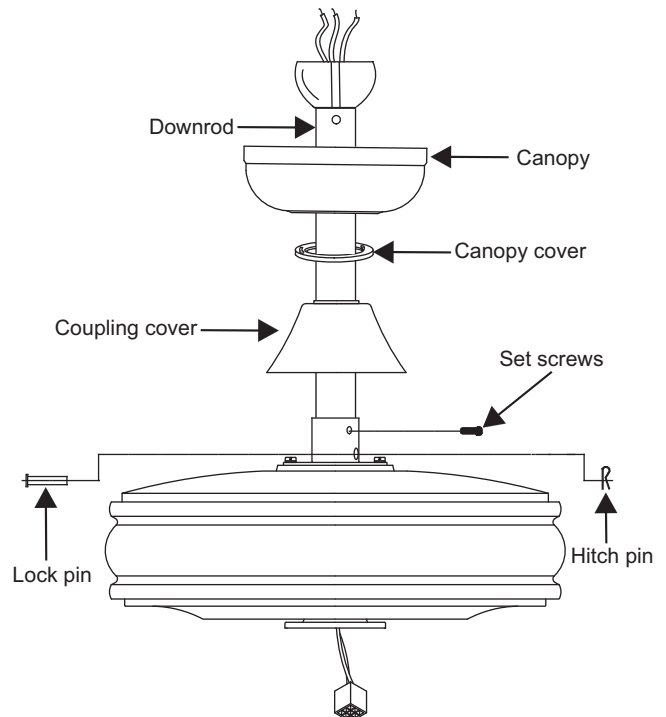

Figure 7
**Step 6.** Route wires exiting from the top of the fan motor through the coupling cover, canopy cover, canopy and then through the ball / downrod. (Fig. 7)
**Step 7.** Align the holes at the bottom of the downrod with the holes in the collar on top of the motor housing (Fig.7). Carefully insert the hanger pin through the holes in the collar and downrod. Be careful not to jam the pin against the wiring inside the downrod. Insert the locking pin through the hole near the end of the hanger pin until it snaps into its locked position, as noted in the circle inset of Fig. 7.
**Step 8.** Tighten two set screws on top of the fan motor firmly. (Fig. 7)